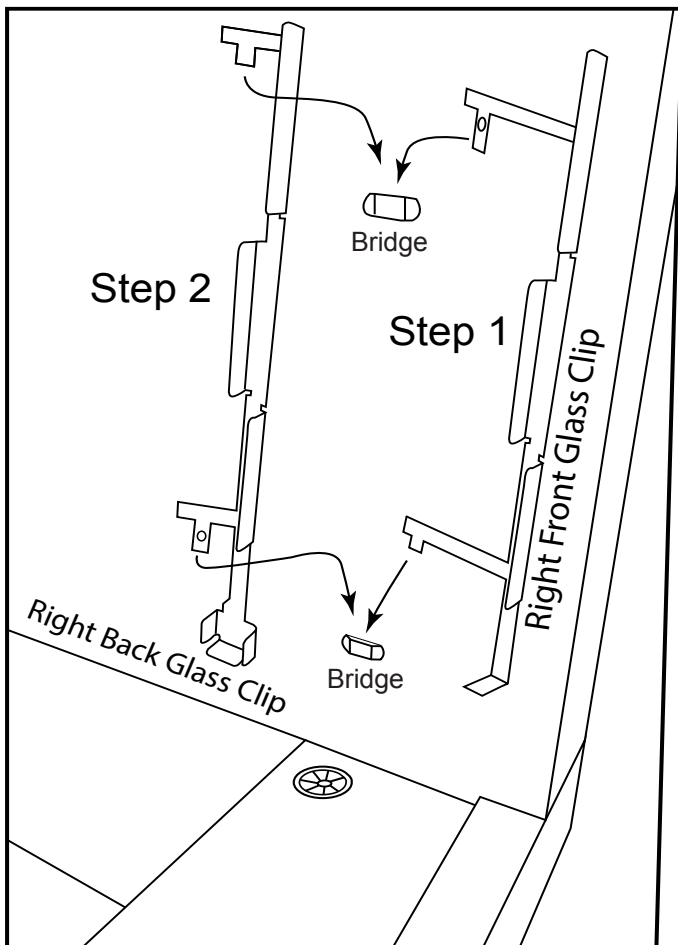

Fig. 20 Installing glass clips.
Install the longer glass clips by sliding them down through the metal bridges as shown in Fig. 20. Install (1) clip on the left and (1) clip on the right side of the inner fireplace side panel. **Note:** If you are preparing a see-through fireplace you will install a total of (8) glass clips, two for each open side. The additional clips are supplied with the see-through conversion kit.
Step 4: Install the windshield support into the bottom of the glass clip. Ensure the other end of the channel is also sitting inside the other glass clip. See Figs. 20 & 21 as a reference. **Note:** If you are installing into a see-through fireplace, install the other windshield support in the same manner.